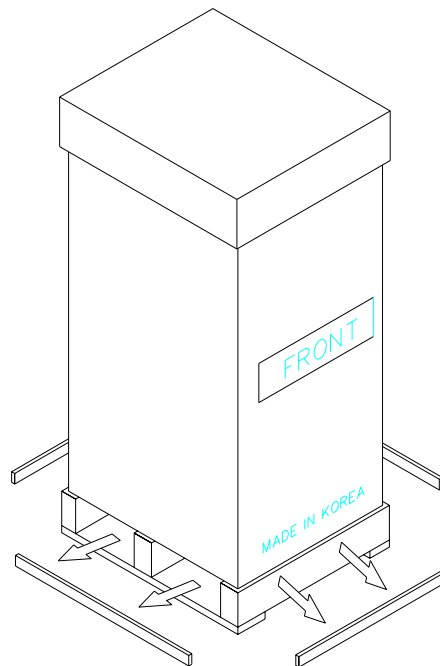

Fig.2
2. Use an appropriate tool to remove the nails from the pallet. (See Fig.2 below)